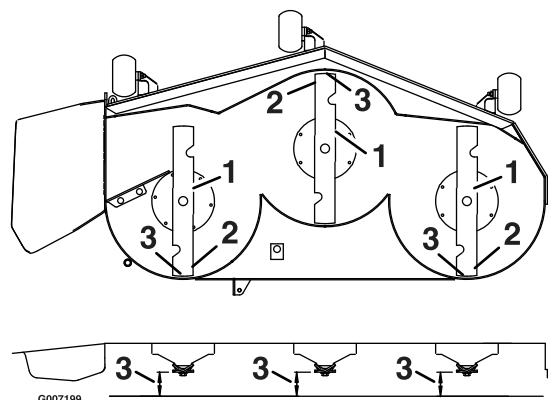

Figure 52
8. Carefully rotate the blades so they are facing front to rear (Figure 52).
9. Measure from the tip of the front blade to the flat surface and the tip of the rear blade to the flat surface (Figure 52). If the front blade tip is not 1/16-5/16 inch (1.6-7.9 mm) lower than the rear blade tip, adjust the front deck hanger.